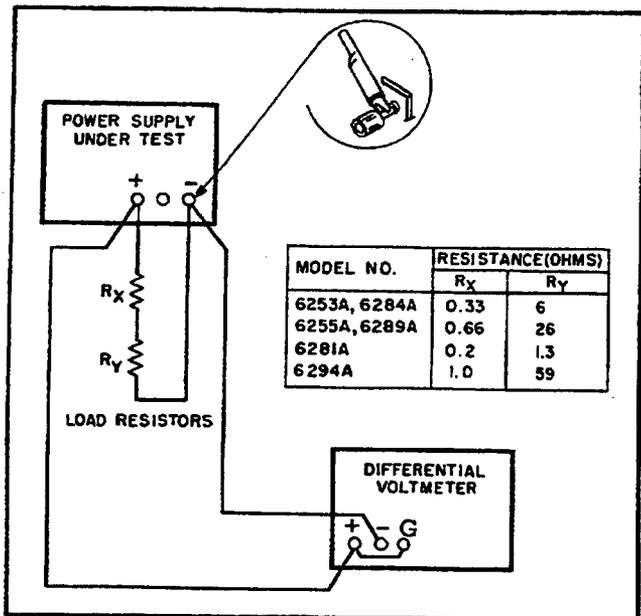

Figure 5-5. Load Regulation, Constant Voltage Test Setup
- Connect test setup as shown in Figure 5-5.
- Connect test setup shown in Figure 5-5.